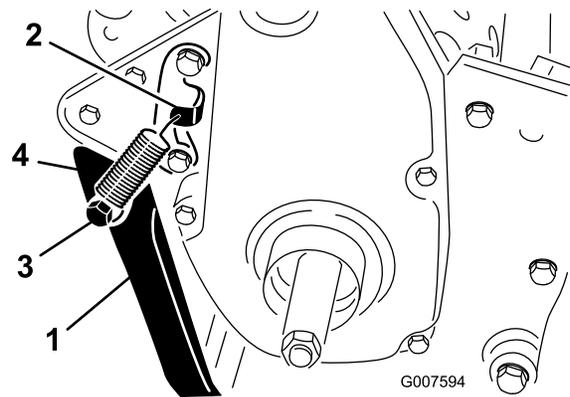

Figure 6
3. Mount the kickstand to each side of the frame with a bolt, lockwasher, spacer, flat washer, and locknut (Figure 6).
2. Hook the spring into the hole in the spring bracket and onto the spring stud while aligning the kickstand with the mounting holes in the rear frame (Figure 6).